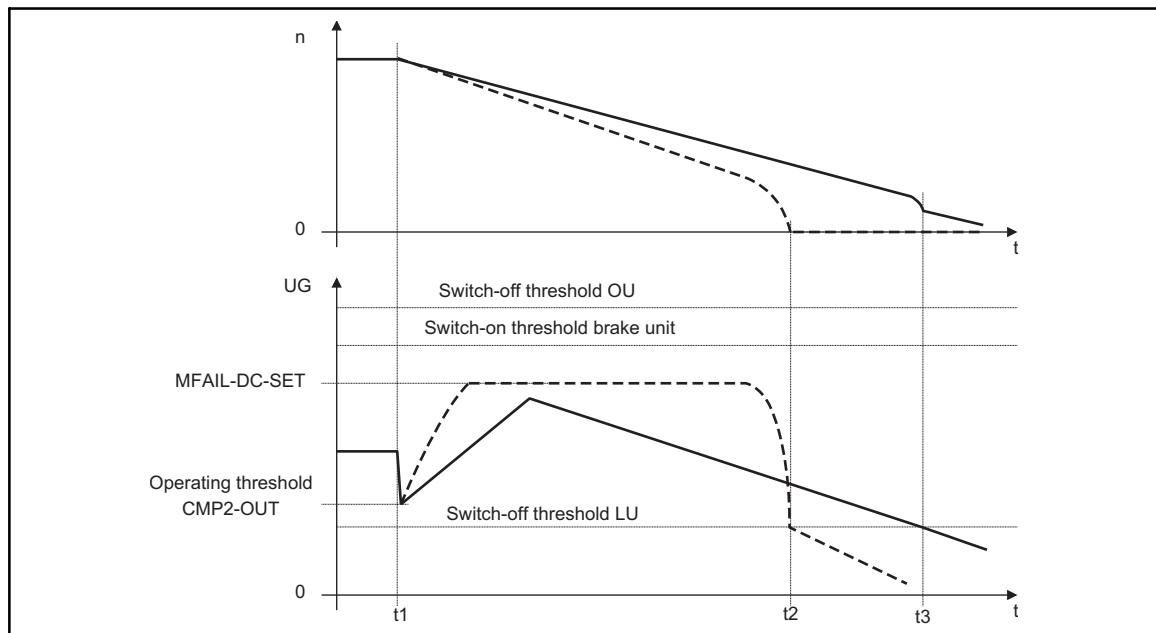

Fig. 9-104
3. Increase of the deceleration time or reduction of the brake torque (see Fig. 9-104) is only possible with restrictions: